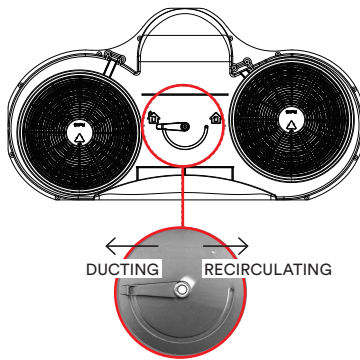
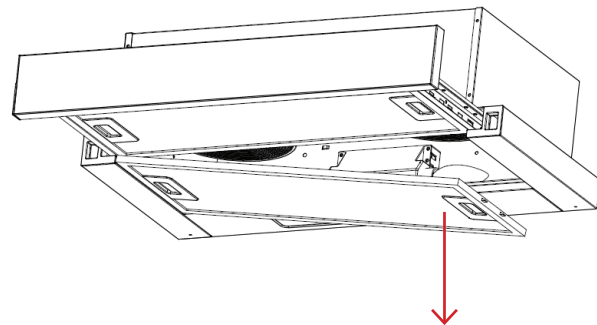
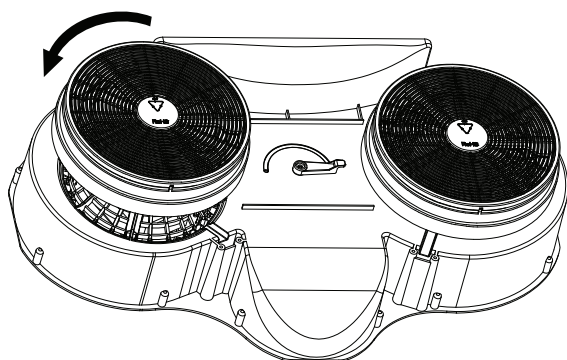

Figure 4
Figure 8
Figure 10
Before installation, please decide the extraction mode with the adjuster on the motor (Figure 4).
3. Remove the aluminium grease filters (Figure 8) from the underside of the rangehood.
4. Turn the switch in the centre of the motor housing to External Ducting position (Figure 4).
5. Remove the charcoal filters by twisting anticlockwise (Figure 10). The charcoal filters are not required for External Ducting mode.
To ensure that the mode is correct, remove the grease filters (see Figure 8) and check that the switch is in the Recirculation Mode position (see Figure 4).
To remove the charcoal filters you will first need to remove the grease filters (see Figure 8). Then twist anti-clockwise and pull down as shown in Figure 10.
- To remove the Aluminium grease filter, see Figure 8 on page 14.